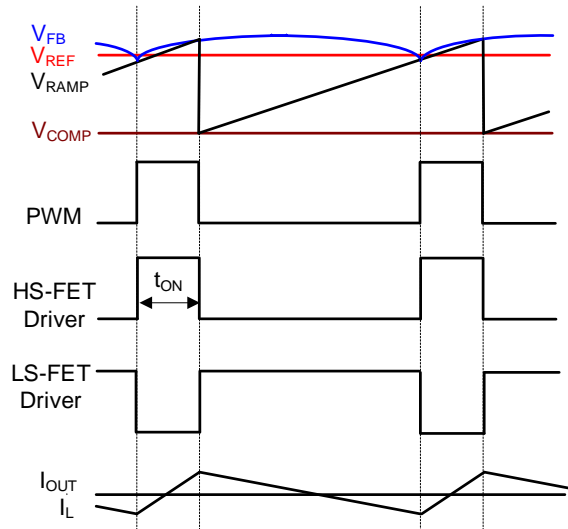

Figure 3: CCM during Heavy-Load Operation
This is called shoot-through. To avoid shoot-through, a dead time (DT) is generated internally between the HS-FET off time ( $t_{OFF}$ ) and the LS-FET  $t_{ON}$ , and vice versa. Figure 3 shows PWM mode under heavy-load conditions.
If the output current ( $I_{OUT}$ ) is high and the inductor current ( $I_L$ ) is above 0A, then the part operates in continuous conduction mode (CCM) (see Figure 3). The MPQ8633B-H can also be configured to operate in forced continuous conduction mode (FCCM) when the  $I_{OUT}$  is low. See the Mode Selection section on page 14 for more details.